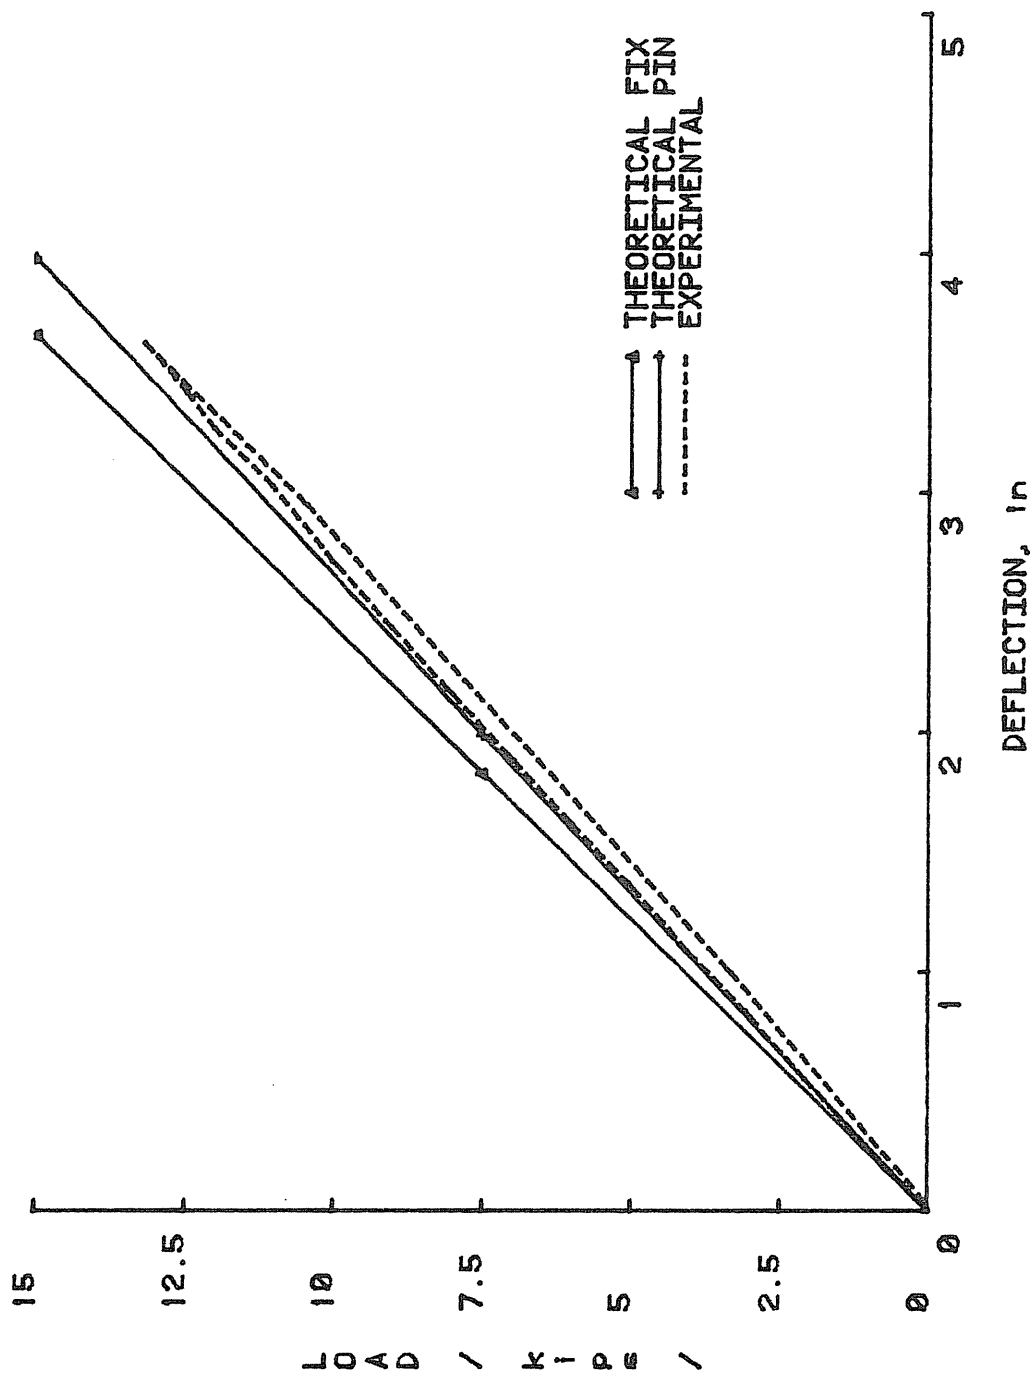

FIGURE A.2 LOAD VS. CENTERLINE DEFLECTION, TEST PBP1
- Figures A.2 to A.4 show that the centerline deflection was close to the pinned base theoretical curve while both quarterpoint deflections were slightly greater than predicted.